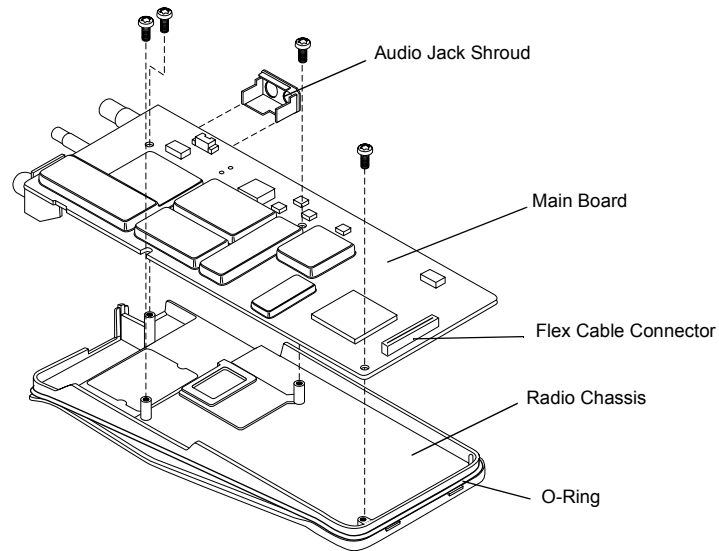

Figure 7-10. Removal of Main Board from Chassis
2. Use a Torx™ screwdriver with a T6 bit to remove the four screws (Figure 7-10) holding the main board to the chassis.
4. Lift the main board from the chassis (Figure 7-10).